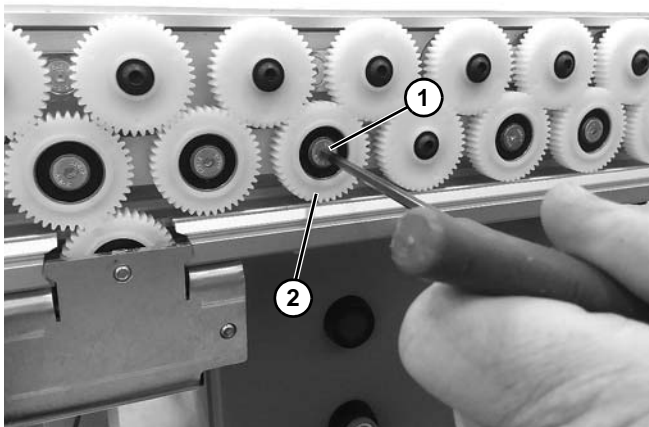

Figure 54
2. Remove screw (Figure 54, item 1) from lower gear (Figure 54, item 2).